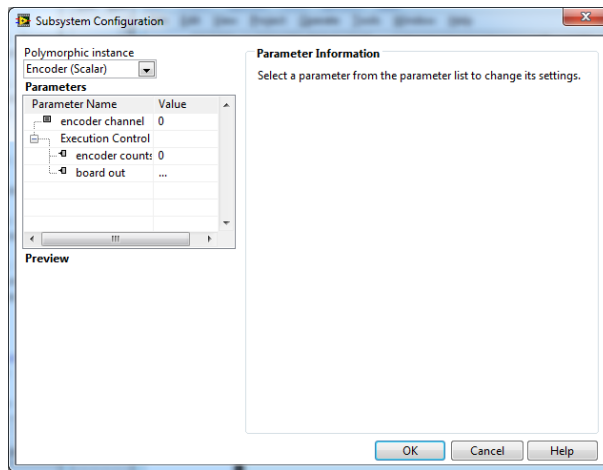

Figure 1.6: HIL Read Configuration
4. As shown in Figure 1.6, set the Polymorphic Instance to *Encoder (Scalar)* in order to read from Encoder channel #0.